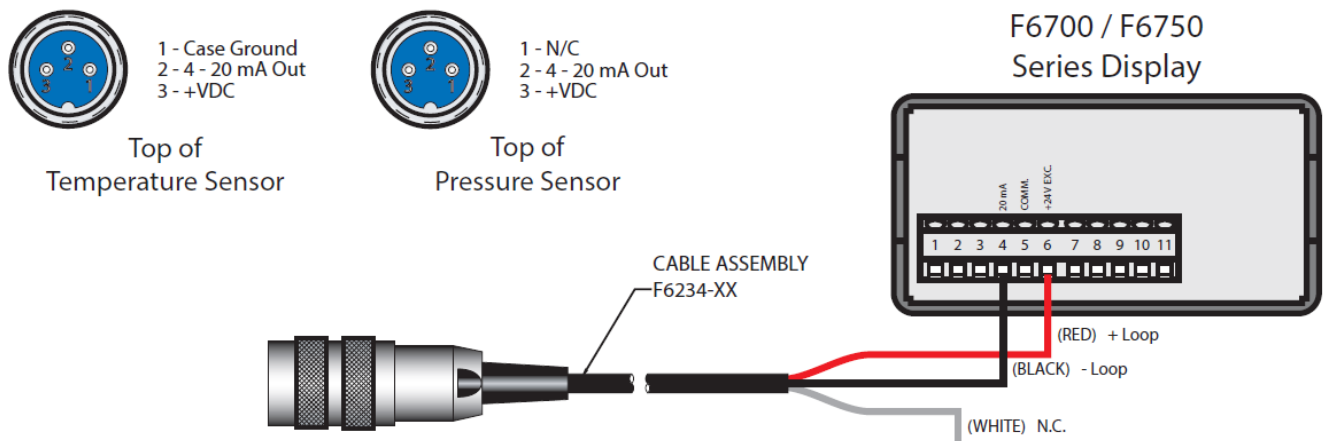

Figure 5: Flo-tech pressure and temperature sensor wiring
1. Connect the RED wire of the F6234 cable to terminal 6 (+24 V EXC) on the F6700 series display. See Figure 5.